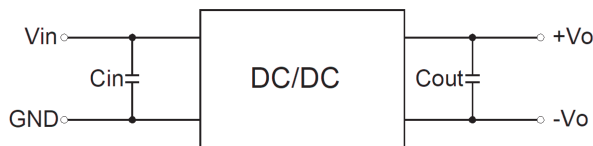

Fig. 5
4. To further reduce input and output ripple, a capacitor filtering network can be connected at the input and output terminals. The application circuit is shown in Figure 5.
C3	Refer to the Cout parameter in Figure 5